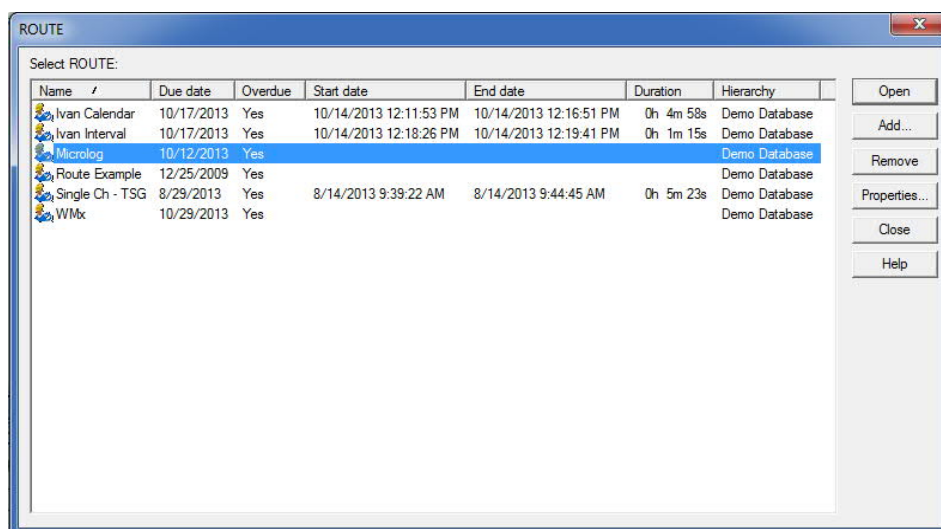

Figure 1. ROUTE Manager
2. Select a route from the list, and click Properties. [Figure 1]